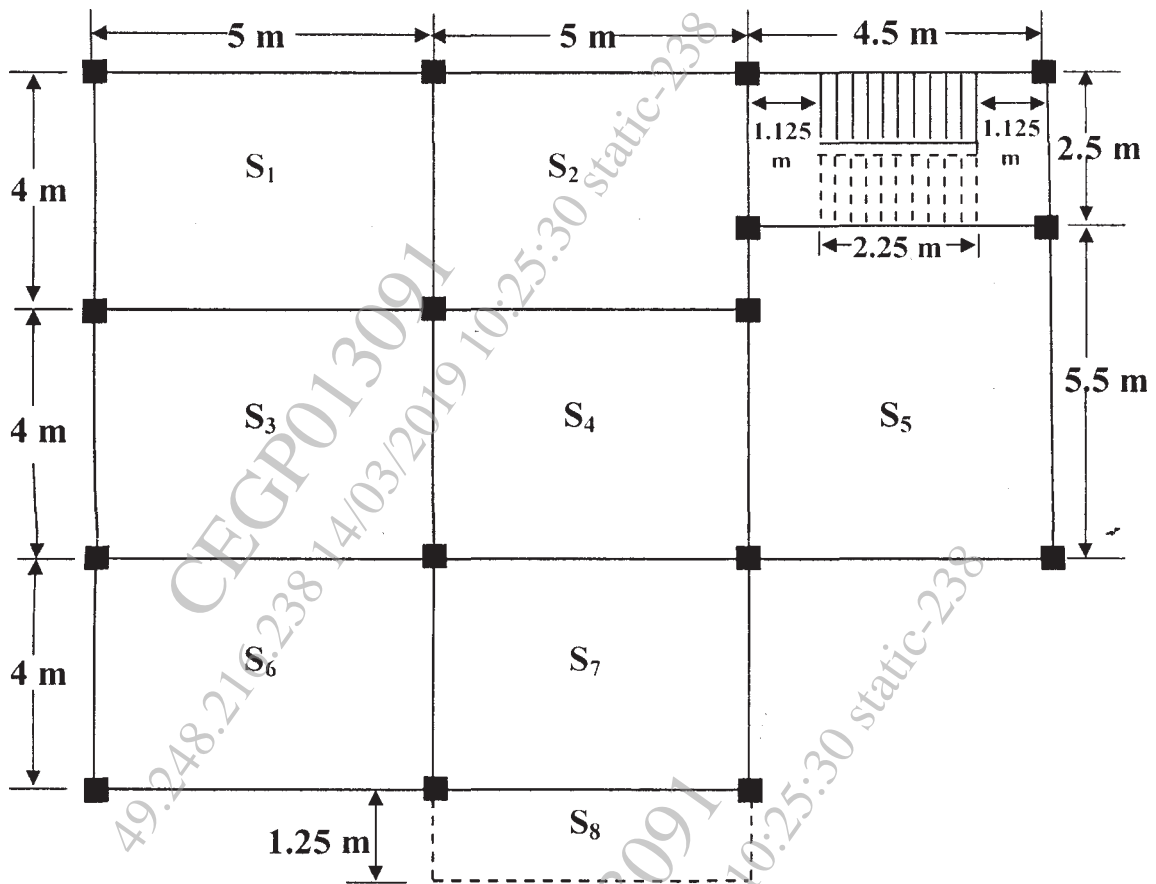

Figure 1: Centre line plan of G+2 Building
b) The central line plan of building is as shown in Fig. 1. Design a cantilever slab  $S_8$  only for flexure by LSM. Draw neat sketches showing details of reinforcement. Take live load = 4 kN/m2; Floor finish = 1.5 kN/m2; Materials: M25 grade of concrete; Fe500 grade of reinforcement. [7]
- Q5)** Referring to central line plan of building (Fig. 1), design the slab  $S_1$  only for flexure by L.S.M. Draw neat sketches showing details of reinforcement. Take: Live load = 4 kN/m2; Floor finish = 1.5 kN/m2; Materials: M25 grade of concrete; Fe 500 grade of reinforcement. [10]
- Q6)** Design the first flight of a dog-legged staircase as shown in Fig. 1 [10]